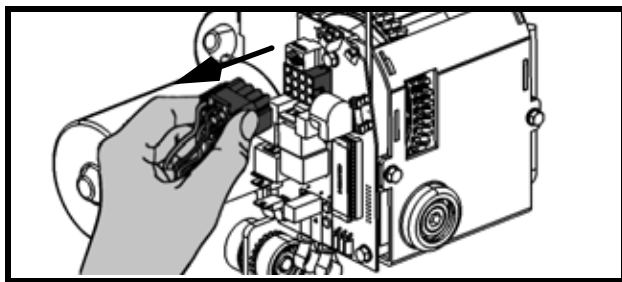

Fig. 11
- 2) Disconnect the main connector from circuit board. This will open the motor circuit and allows the motor to turn more easily (see Fig. 11).